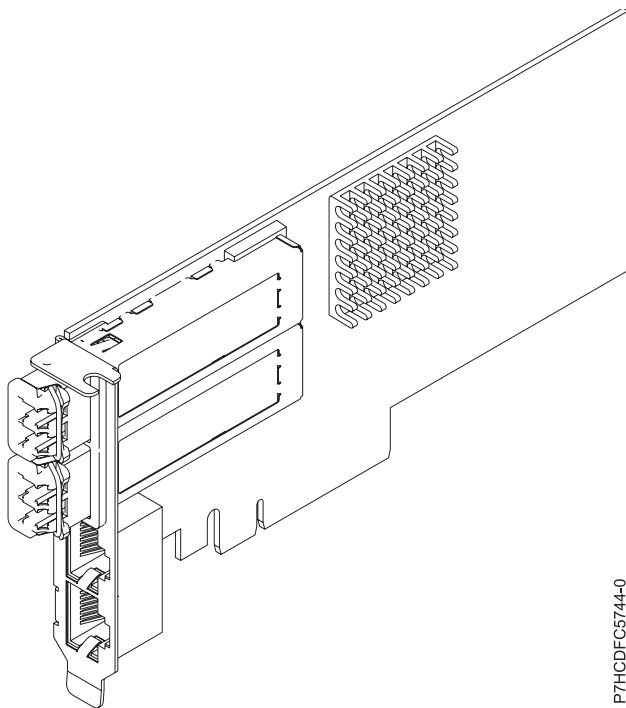

Figure 36. PCIe2 LP 2x10GbE SR 2x1GbE UTP adapter
The PCIe2 LP 2x10GbE SR 2x1GbE UTP adapter is a PCI Express generation-2, four-port Ethernet unified wire adapter with a PCI Express 2.0 host bus interface. The adapter is optimized for cloud computing, virtualization, storage, and other data center applications. The four port adapter provides two 10 Gb Ethernet ports and two 1 Gb Ethernet ports. The two 10 Gb small form-factor pluggable (SFP+) single root (SR) transceiver ports are used for connectivity with other servers or switches in the network. Each SFP+ (SR) port provides Ethernet connectivity with a nominal data rate of 10 Gbps (gigabits per second), and uses the SFP+ copper twinaxial cables up to 5 m (16.4 ft) in length. Each of the RJ45 ports provides Ethernet connectivity at a data rate of 1 Gbps. The link aggregation and failover features of the adapter are ideal for critical network applications that require redundancy and high availability. Figure 36 shows the FC 5745 adapter.